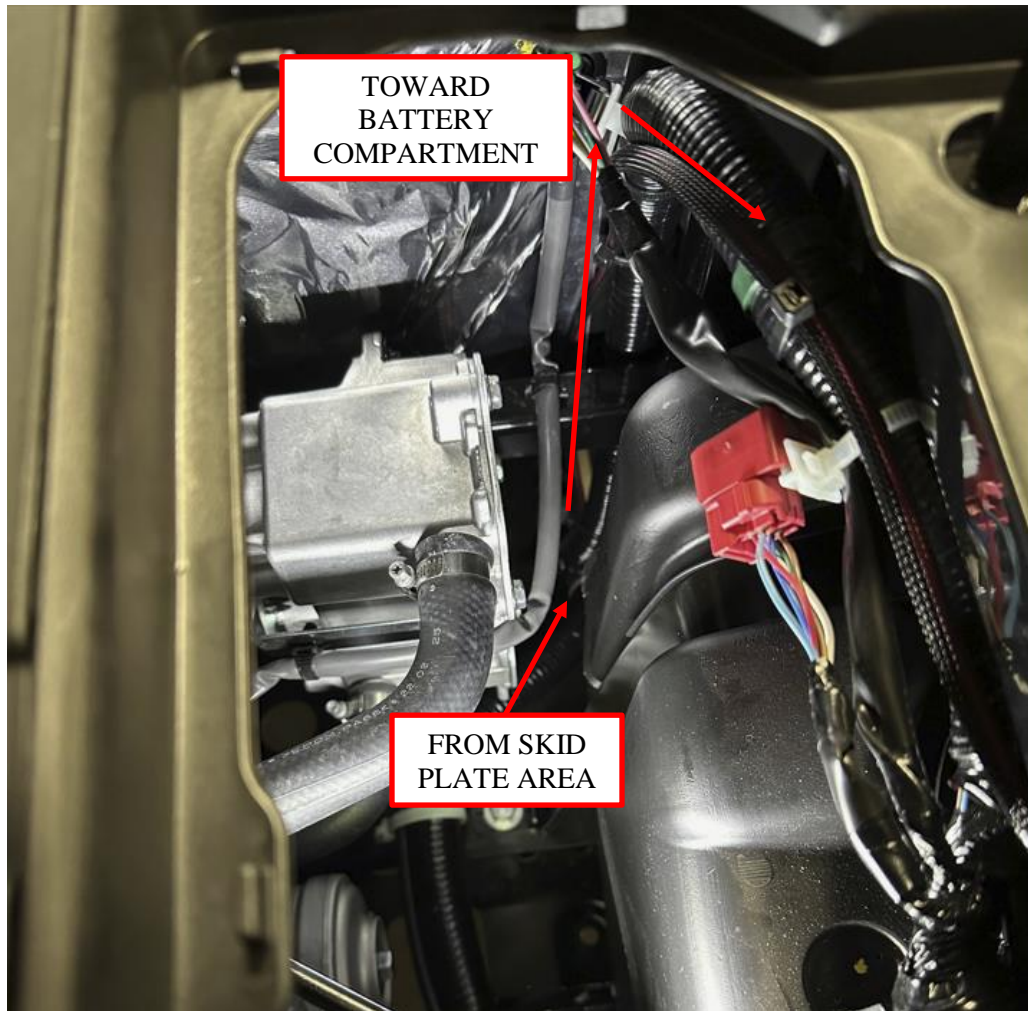
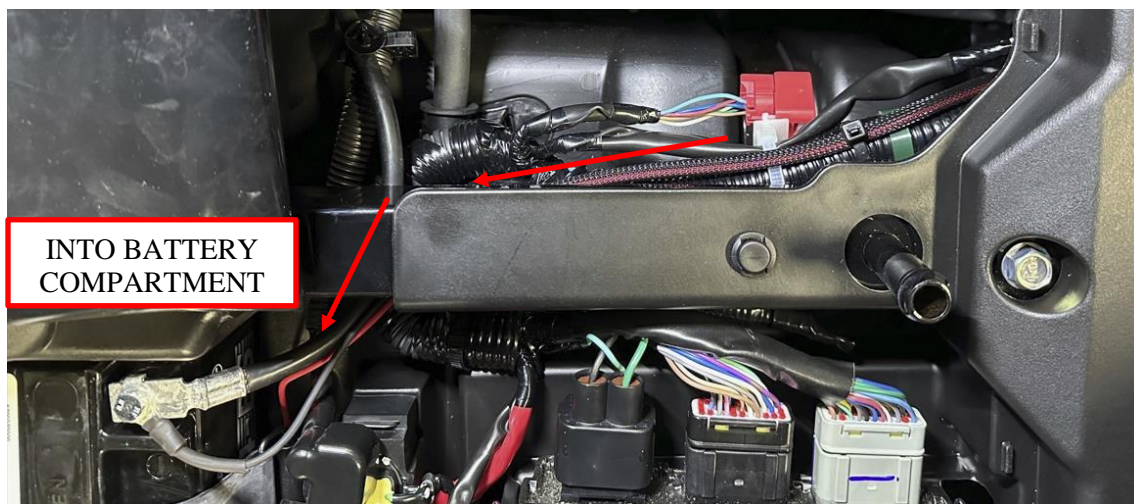

Figure 18: Route the harness up towards the battery compartment.
Figure 19: Route the harness into the battery compartment.
18. Continue routing the battery harness along the OEM harness all the way into the battery compartment, just under the passenger side seat. See Figure 18 and Figure 19.